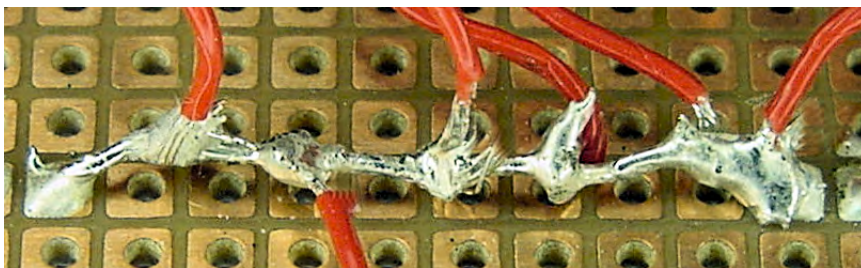

Figure 23-14. Positive-voltage distribution bus on which many wires are soldered
13. Now, whenever a module circuit needs access to positive power, simply solder a wire to the bare wire that forms the positive-voltage distribution bus (see Figure 23-14).